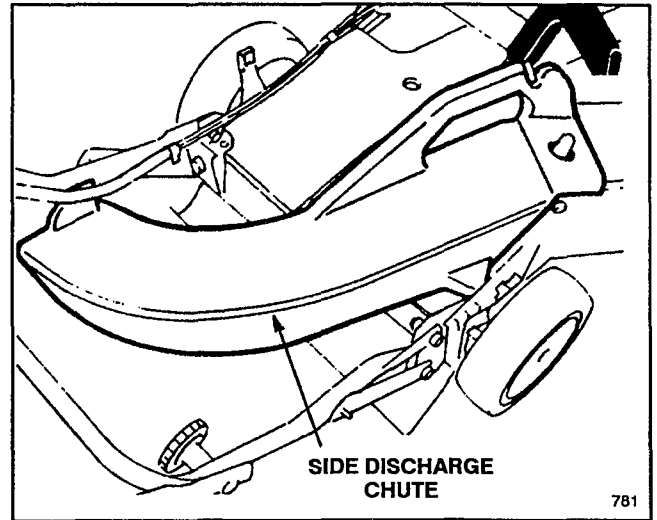

Figure 34
**2. Side Discharge Kit, Model No. 59168**—Installs in seconds. Rear mounted in place of the grass bag. Disperses clippings while trimming on both sides (Fig. 34).